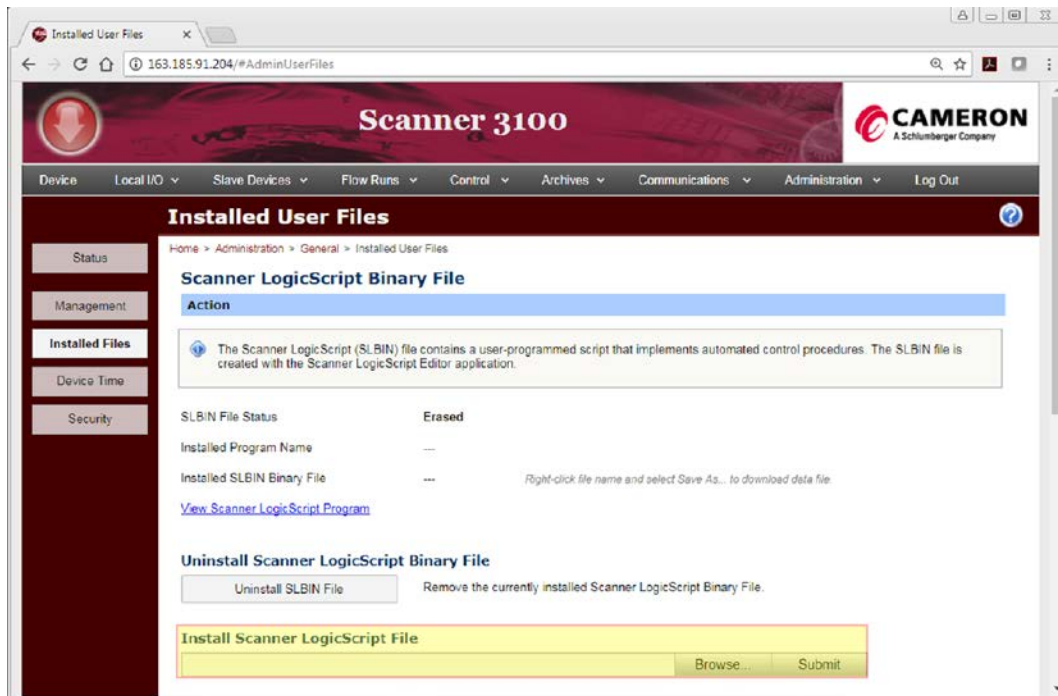

Figure 3.10—Installed User Files web interface page
4. Click **Browse** and select the SLBIN file for the device and firmware to which you are connected (see Figure 3.10).